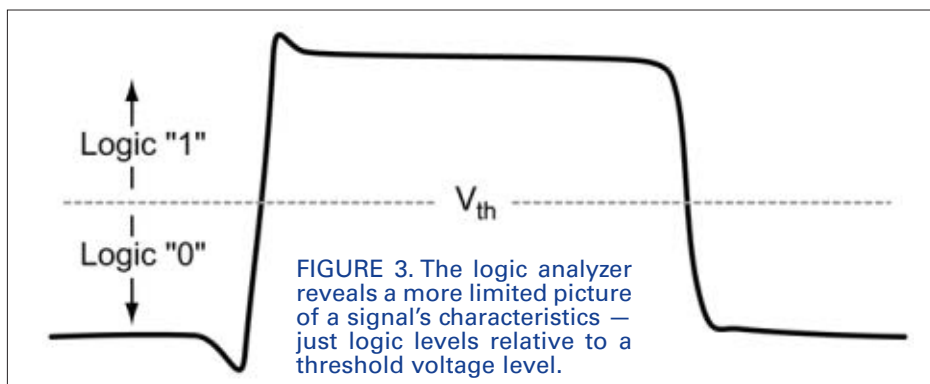

FIGURE 3. The logic analyzer reveals a more limited picture of a signal's characteristics — just logic levels relative to a threshold voltage level.
A logic analyzer detects logic threshold levels (see Figure 3). When the input is above the threshold voltage, the level is said to be "high" or "1;" conversely, the level below the threshold voltage is a "low" or "0." When a logic analyzer samples an input, it stores a 1 or a 0, depending on the level of the signal relative to the voltage threshold.
described here borrows from the HeartLander robot in the manner in which the robot is steered and in how the segment spacing is cycled to move the robot forward. Figure 3 shows the completed magnetic inchworm in a clockwise turn. Note the front segment is angled down and clockwise, in preparation for the pull on the rear segment. Because stainless steel rods connect front and rear segments, it's important to have ample play in the front and rear segment connection points, as illustrated in the figure.
■ FIGURE 3. Magnetic inchworm from above shown in a clockwise turn. Receiver atop the main body is supplied with 4.8 VDC externally.